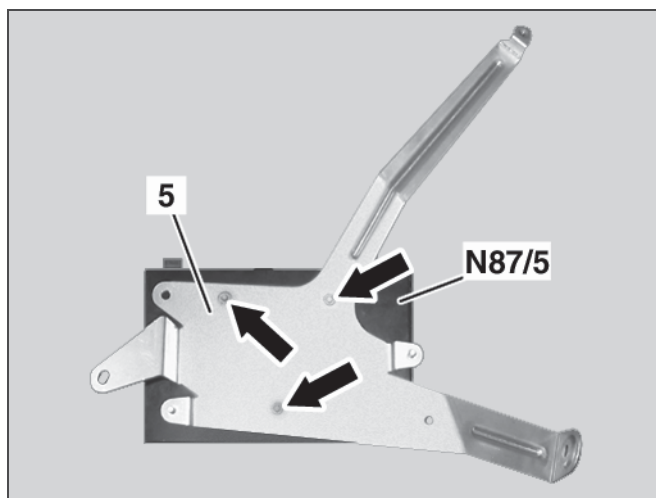

Figure 7
1. Mount the SDARS control module (N87/5, Figure 7) to the bracket (5, Figure 7) with the three kit-included M5 hex nuts (Arrows, Figure 7).
Note: Position the SDARS control module so the connector jacks face the longest arm of the bracket (Figure 7).